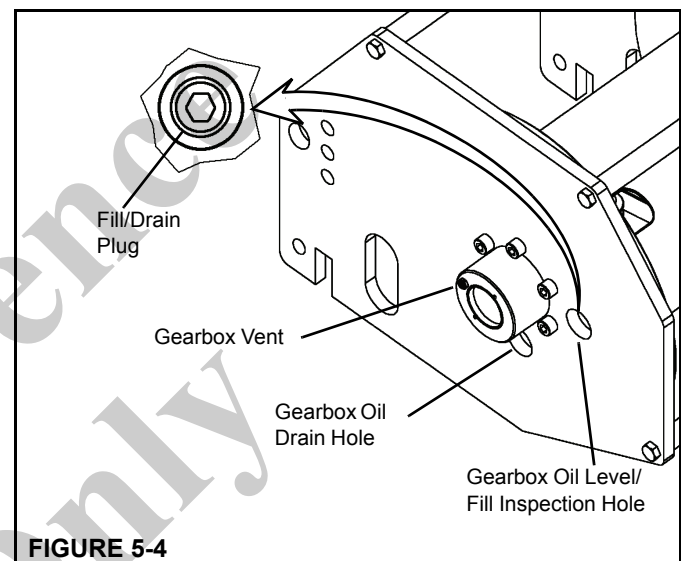

FIGURE 5-4
- Rotate the drum until the oil fill/drain plug is level with the oil level/fill inspection hole (Figure 5-4).